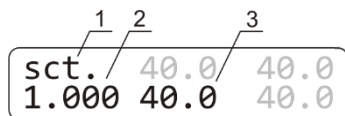

Figure 4. Display in calibration mode: 1. Calibration mode indicator; 2. Calibration coefficient; 3. Temperature with current coefficient
6.2. To change the calibration coefficient, hold the **TIME RUN/STOP** key pressed for more than 8 s to activate calibration mode. The calibration coefficient appears on the display (figure 4).
Values marked in grey on figures 4 and 5 are not used in calibration and are meant for service engineers.
6.3. **Restoring factory settings.** Set 1.000 value using the ▲ and ▼ T, °C keys as shown on fig. 4/1 to restore the factory settings. Press the ►/■ **RUN/STOP** key once to save the changes and exit the calibration mode.
6.4.5. Hold the **TIME RUN/STOP** key pressed for more than 8 s to activate calibration mode (figure 4).